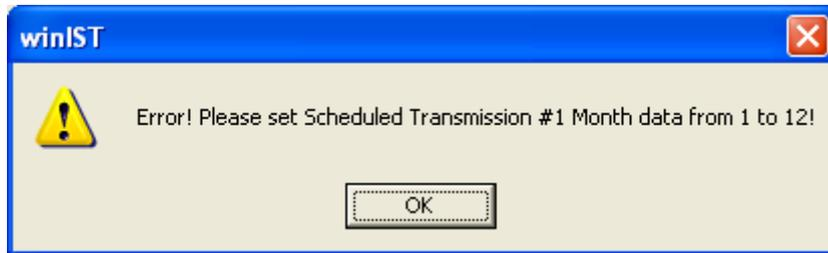

Fig. 4-17-2a Month data setting error dialogue box
4. Operation except [Exit], [Display], and/or [Ver] is not possible while winIST is communicating with INMARSAT terminal(the function in the frame of **Fig. 4-17-2a [Scheduled Transmission] screen** cannot be operated.)